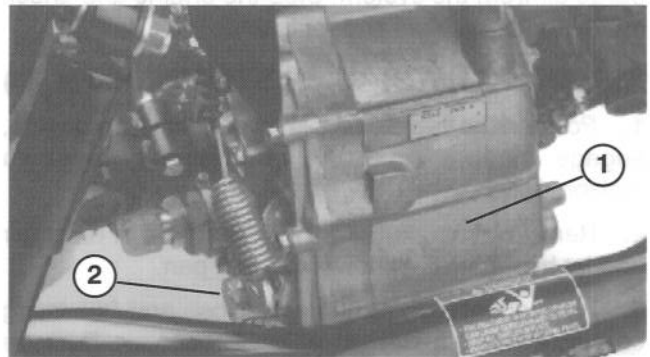

Figure 42
CHANGING TRANSAXLE / HYDRAULIC FLUID (Fig. 42)
2. Remove drain plug (Fig. 42) from side of reservoir and let hydraulic fluid flow into drain pan.